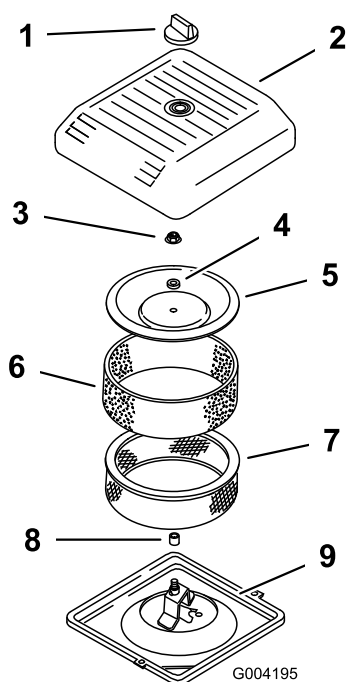

Figure 18
2. Unscrew the knob and remove the air cleaner cover (Figure 18).
3. Carefully slide the foam pre-filter off of the paper element (Figure 18).
4. Unscrew the cover nut and remove the cover, spacer and paper filter (Figure 18).
2. Place the air cleaner assembly onto the air cleaner base (Figure 18).
3. Install the cover, spacer and secure it with the cover nut (Figure 18). Torque the nut to 95 in-lb (11 N-m).
4. Install the air cleaner cover and secure with the knob (Figure 18).